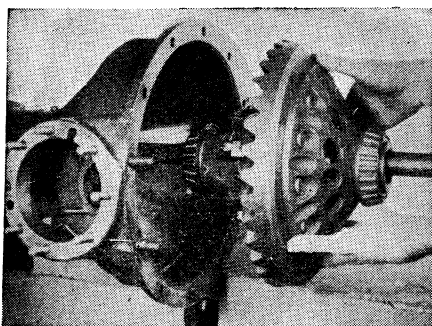

Fig. 112 Installing differential and gear into case
4. Position differential and gear over pipe, Fig. 112, with gear facing the case half and slide into position.